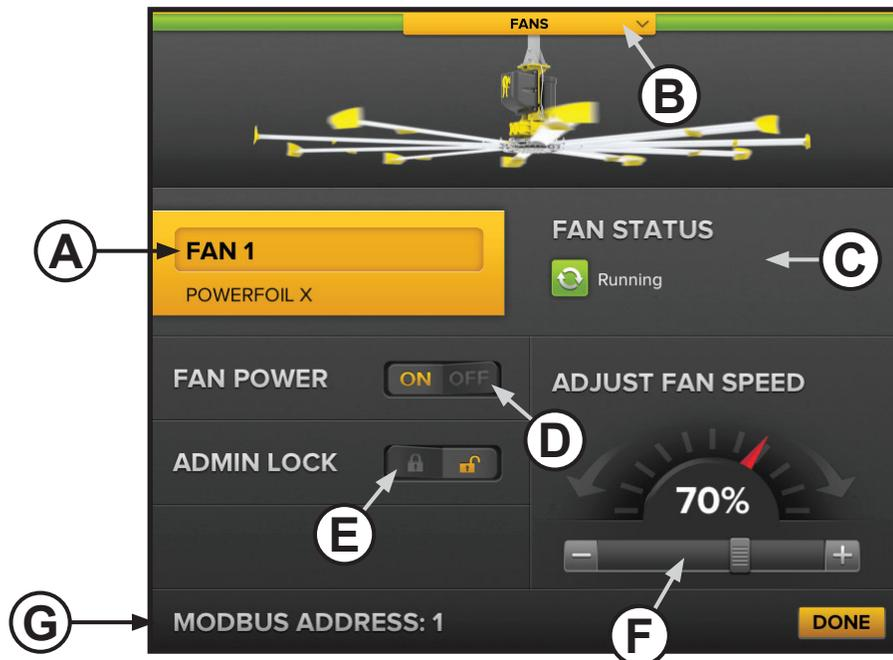

Figure 3–Fan settings page
3. Select the fan. The fan settings page appears (Figure 3).
4. Adjust the settings as necessary, and then touch **Done**. See Figure 3 below for details.